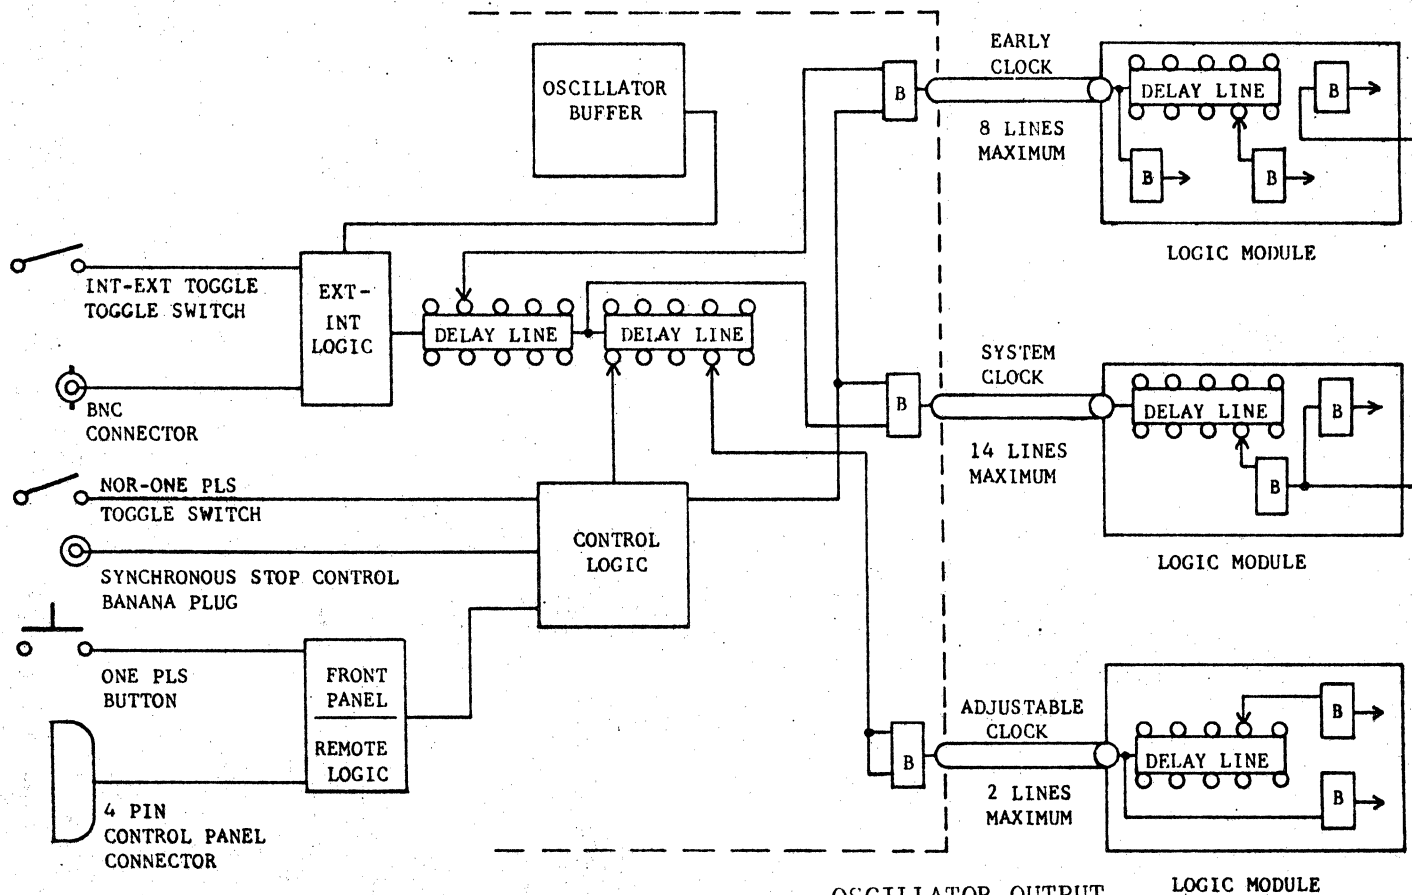

FIG. 4 OSCILLATOR OUTPUT
6.5 OSCILLATOR OUTPUT TO BOARD OUTPUT. The flow path is straight forward and conventional through two 50NS delay lines as shown in Figure 4. The output of the first delay line is used to drive the system clock buffers. Taps on the first delay line produce a signal ahead of the system clock and are used to provide the early clock. Taps are provided at jumper chip location G3 to set early clock nominally 40NS ahead of the system clock referenced at coaxial connector outputs. Some taps on both the first and second delay line are fed to jumper chip at E3. When a jumper is placed from a pin to pin K, the adjustable clock output is energized. Taps are provided to adjust the adjustable clock from ahead of the system clock by 25NS to after the system clock by 35NS in nominal 5NS increments.
6.6 Control Logic. The INT - EXT toggle switch allows either the internal oscillator or the BNC connector to be the signal source for the clock card, Figure 4.
6.6.1 The NOR - ONE PLS toggle switch when placed in the ONE PLS position, synchronously stops the clock such that no clock pulses are "shaved", Figure 4.
- 6.6.4 When in the ONE PLS position, the push button is energized and a single pulse is produced for each push of the ONE PLS button. See Figure 4.
- 6.6.5 The 4 pin control panel connector can be used to connect a remote single pulse control on the clock. When pin 1 is connected to pin 2, the front panel button is disabled and the remote button can be connected as shown below, and in Figure 4.